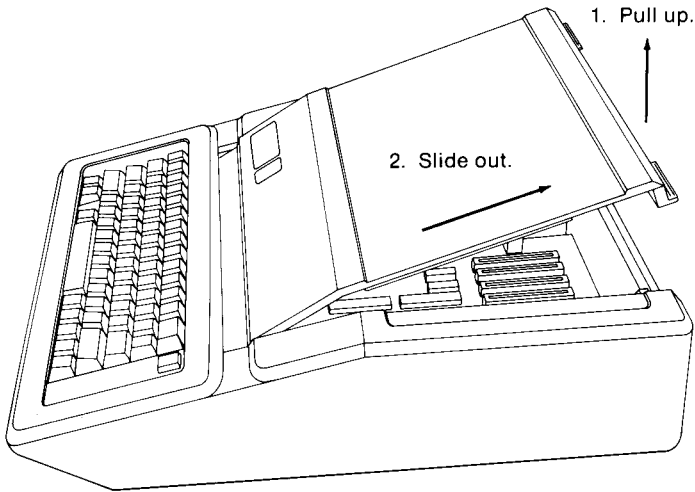

Figure 2.3. Top Cover Removal
5. Position your Apple computer with the keyboard directly in front of you, then grasp the tabs at the back of the top cover, as shown in Figure 2.3.